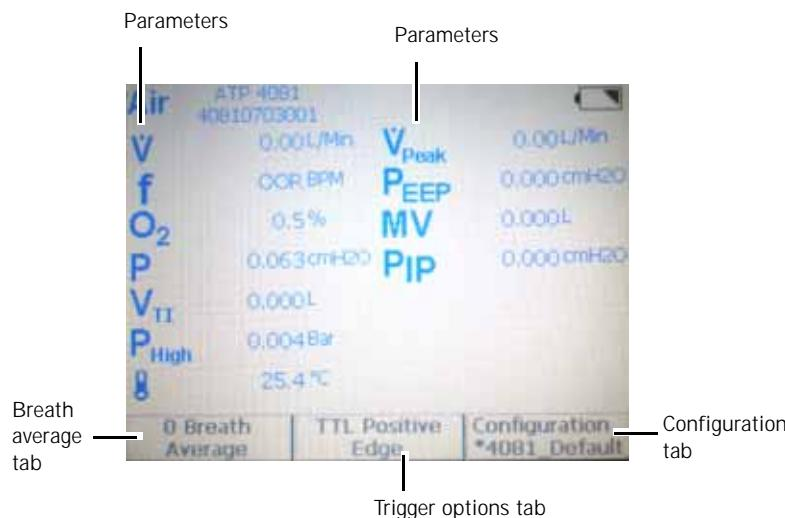

Figure 8-3: Main Screen
1. Touch any parameter on the touch screen (refer to Figure 8-3) to display the Measurement Selection screen.
1. Touch the Breath Average tab (refer to Figure 8-3) to display the Averaging Setup Menu screen.
1. Touch the Trigger Options tab (refer to Figure 8-3) to display the Trigger Options screen.
1. Touch the “Configuration” tab (refer to Figure 8-3).